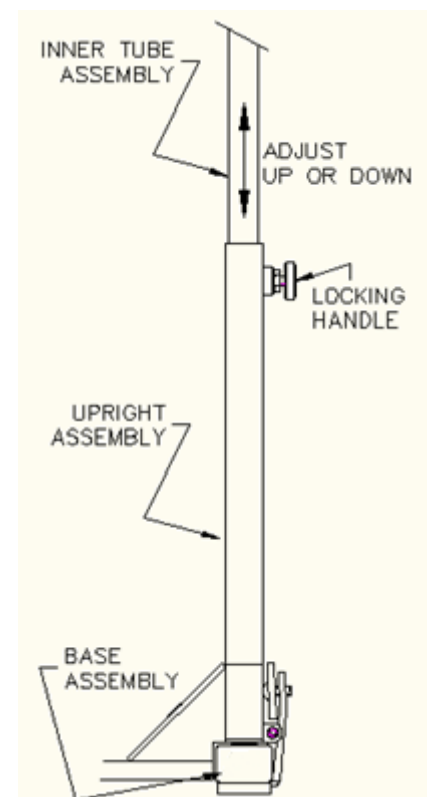

Fig. 8
2. Loosen the Spin-Snap Lock Device on each side of the Uprights, by turning the Spin Lock portion (round disc) counterclockwise. (See **Fig. 8**)
3. While supporting the weight of the Rail or Ring Frame, pull outward on the Snap Lock Portion of the Spin-Snap Lock Devices on the Uprights. (See **Fig. 8**)